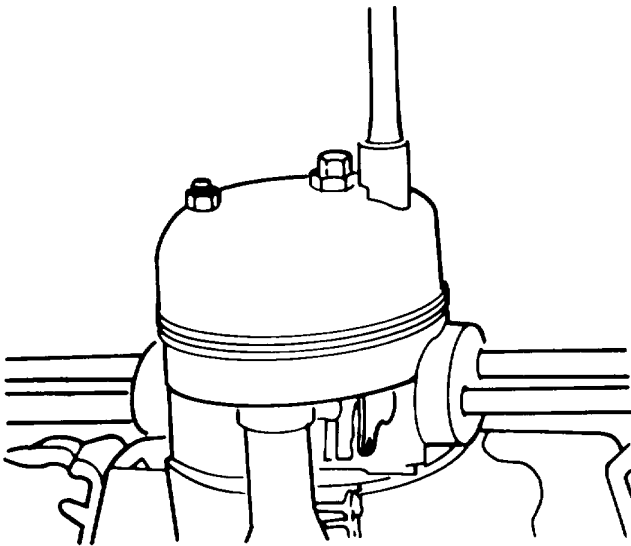

Figure A-4. Valve Cover
f. Valve Cover. Remove the valve cover and cover gasket by removing the two acorn nuts on top of the valve cover with a 13mm socket. If necessary, tap lightly on the side of the valve cover with a soft faced hammer to loosen it. (Figure A-4).